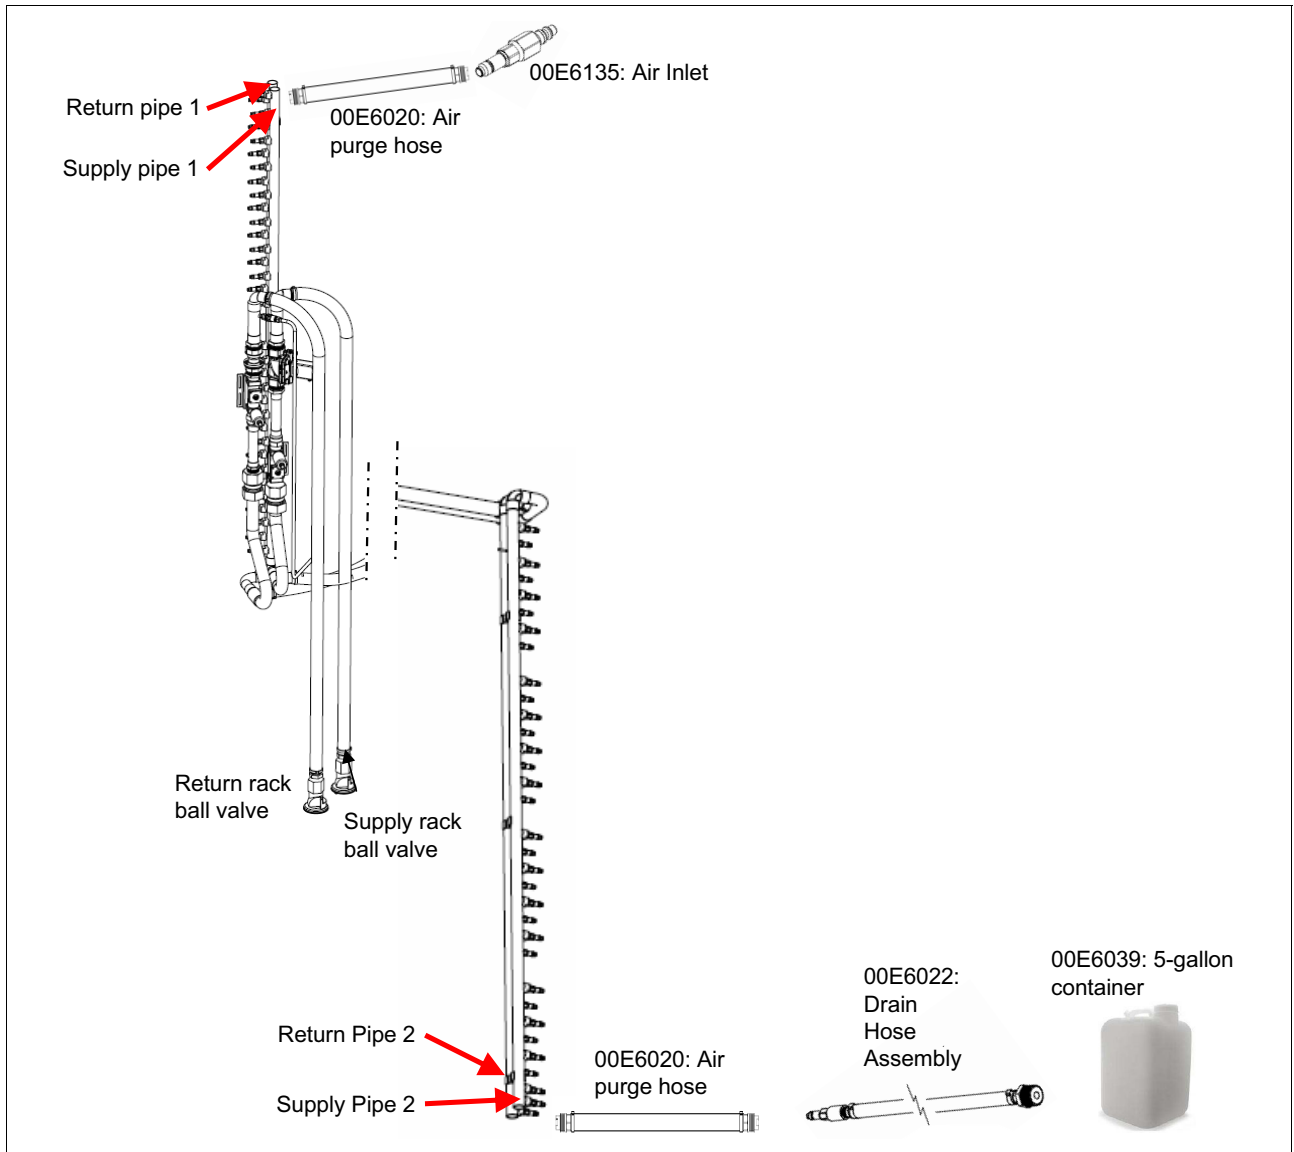

Figure 4-50 Draining pipe 2
5. Drain return pipe 2 using the following steps. See Figure 4-50 for information about the required parts and connections: